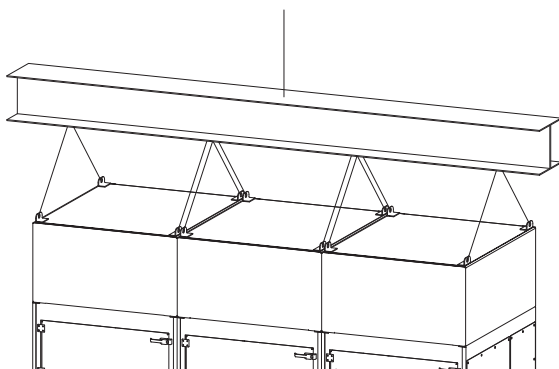

FIGURE 1
2. Lift the unit with a lift truck or overhead crane rated to support the dust collectors weight. Use all the lifting lugs provided and lift in a method described in Figure 1, 2 or 3.